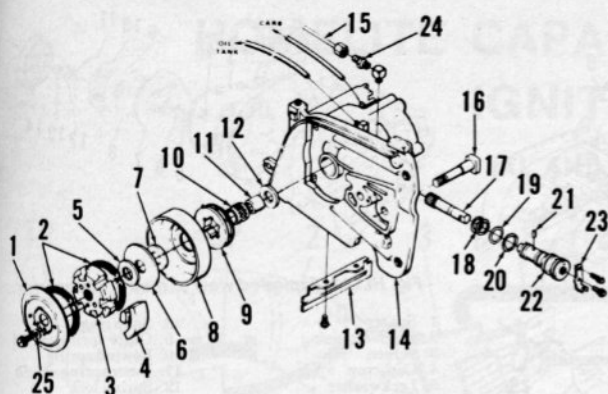

Fig. HL275—Exploded view of clutch and oil pump assemblies.
CLUTCH. Refer to Fig. HL275 for exploded view of clutch assembly. To remove clutch, prevent flywheel rotation by inserting 3/16 inch rod through hole located on bottom of back plate into notch in flywheel. Using a Homelite clutch spanner or a suitable tool, unscrew clutch hub (3) in clockwise direction as shown by arrow on hub.
To disassemble automatic oil pump, unscrew oil pump bracket screw and gently withdraw oil pump body (22—Fig. HL275). Do not lose cam pin (21) which is loose in pump body. Remove pin (21) and slide pump plunger out of pump body. Inspect pump plunger, body and "O" rings for excessive wear or damage. An excessively loose fit between pump plunger and pump body will cause low pump output. Oil "O" rings before installation in grooves of pump body. "O" rings must be straight in grooves and not twisted. Oil "O" rings before inserting pump body and plunger assembly into pump housing.
If oil pump operates correctly but oil output is insufficient, disconnect and clean oil lines and fittings (Fig. HL275). Install outlet elbow in oil tank